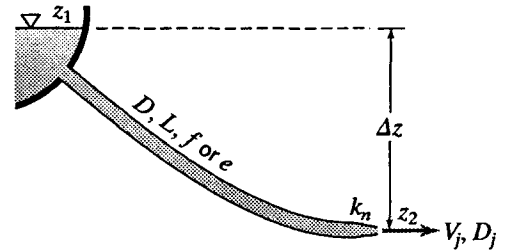

Figure P16.10
16.14 A 36-in pipeline ( $f = 0.020$ ) 10,000 ft long connects a reservoir whose water surface elevation is 1800 ft to a nozzle at elevation 1000 ft (Fig. P16.10). The jet from the nozzle is used to drive an impulse wheel. (a) If the head loss through the nozzle is expressible as  $0.04V_j^2/2g$ , determine the horsepower that will be developed by jets having diameters of 8 in, 10 in, and 12 in. (b) On the basis of the answers to (a), approximately what would be the horsepower and diameter of the jet that gives the maximum horsepower?